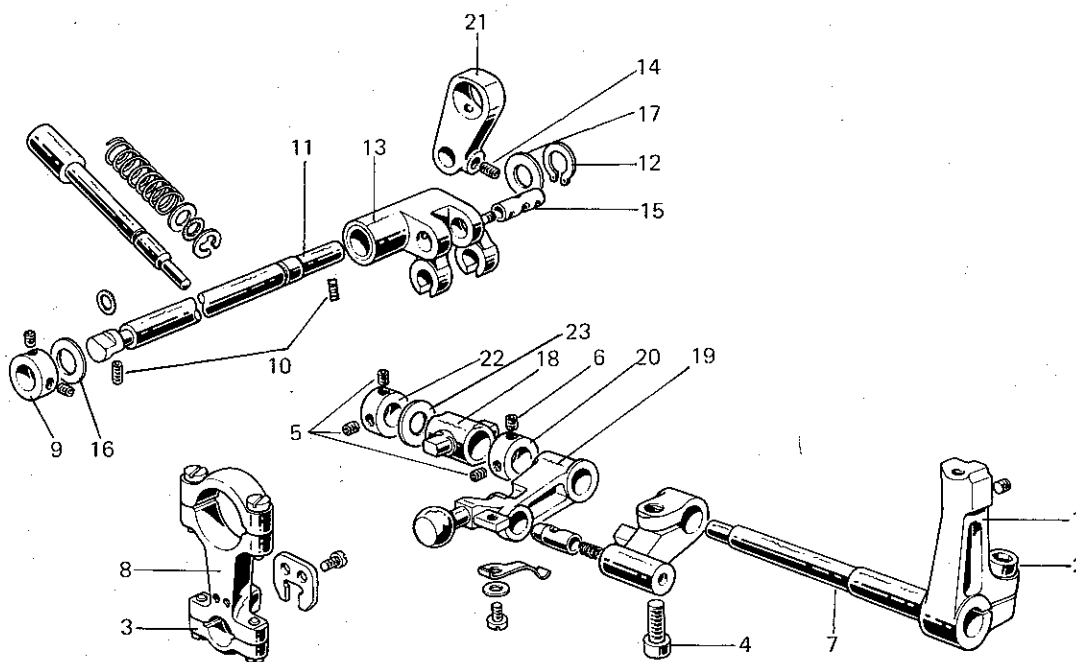

fig. 1
- Slacken Allen screw 4 and screws 5, remove screw 6 (fig.1)
- Take off shaft 7 (fig. 1)
- Disassemble big-end of con-rod 8 (fig. 1)
- Unscrew ring screws 9 (fig. 1)
- Slacken screws of retainer 10 (fig. 1) set in the base at the end of pin 11 (fig. 1)
- Remove snap ring 12 (fig. 1) and take out pin 11
- Disassemble lever 13 (fig. 1) removing screw 14 and taking out pin 15
- Take off con-rod 16 (fig. 1) levering on the machine handwheel and springing the shaft outwards; this is the only way to disassemble said con-rod.
- Insert con-rod 21 (fig. 1), levering on the machine handwheel and springing the shaft outwards. Make sure that the setting notch on the con-rod is facing towards the outside of the machine.
- Assemble lever 13 (fig. 1) to the con-rod by inserting pin 15 (fig. 1), take care to insert it with the internal wick plug screw towards the outside of the machine and the notch turned towards the hole for screw 14 (fig. 1).
- Insert pin 11 (fig. 1), setting the following parts on it in this order: ring 9, washer 16, lever 13, washer 17 and snap ring 12 which is fitted with the special clamp in the collar on the shaft.
- Bring ring 9 (fig. 1) close up, thus packing lever 13 (fig. 1).
- Set on cross-piece 18 (fig. 1) and provisionally insert looper-holder shaft 7, centering it in the hole in the cross-piece, moving pin 11 (fig. 1) axially, then lock it with screws 10 situated at its extremities. There is a locking plane on the outer extremity where the relative screw is tightened.